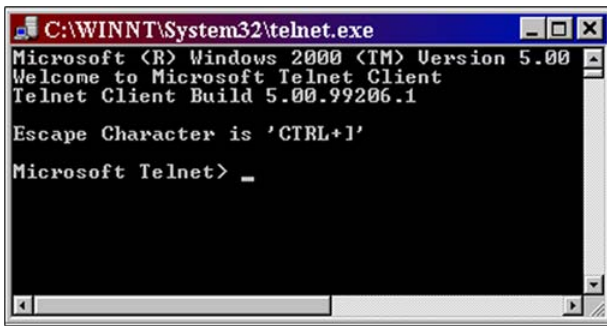

Figure 4-11— Telnet command prompt
1. Click Start, then Run, then type in “telnet” and click OK. The Telnet program starts (see figure 4-11)